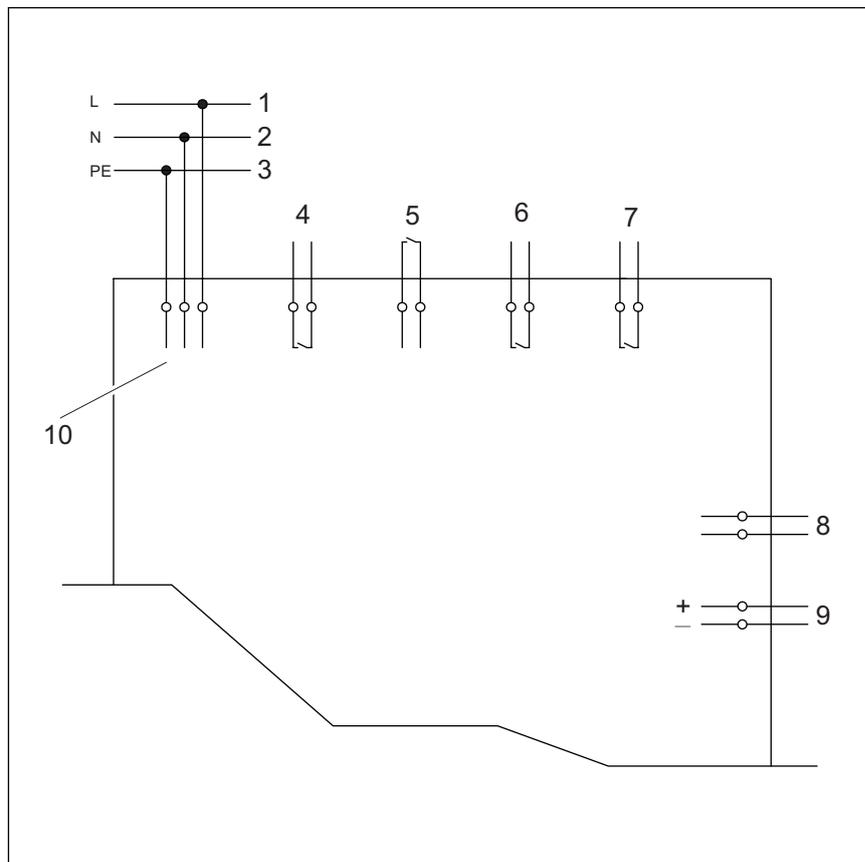

Fig. 6: Connection diagram
- application of 6-48 V AC/DC analog voltage, see  Fig. 6.
The following functions can be set by means of floating contacts, see  Fig. 6: